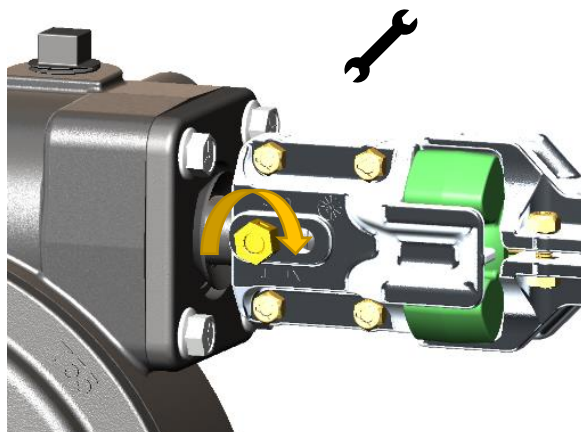

Figure 9: The illustration shown is using the coupler on the final drive gearbox side as an example.
8. To secure the system, start with the couplers either on the final drive gearbox or center drive's shafts. Begin by torquing the 3/8" lock nut down, as shown in Figure 9. **Torque to 35 ft-lbs. of torque. DO NOT OVER-TIGHTEN. OVER-TIGHTENING CAN RESULT IN DAMAGE TO THE COUPLER LOAD ARMS.**